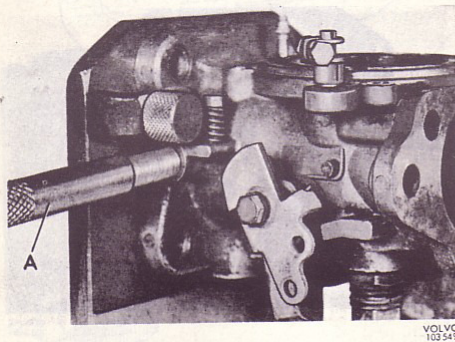

Fig. 21. Driving in of bush
4. After reaming has been carried out, turn the fixture stud through 90° so that it forms a stop inside the carburettor housing for the bush which can then be driven into position with drift SVO 2402, Fig. 21.